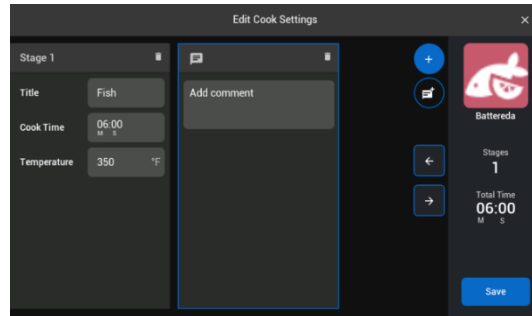

**Figure 56 - Delete Stage**
- Click  on active stage to delete **Figure 56**